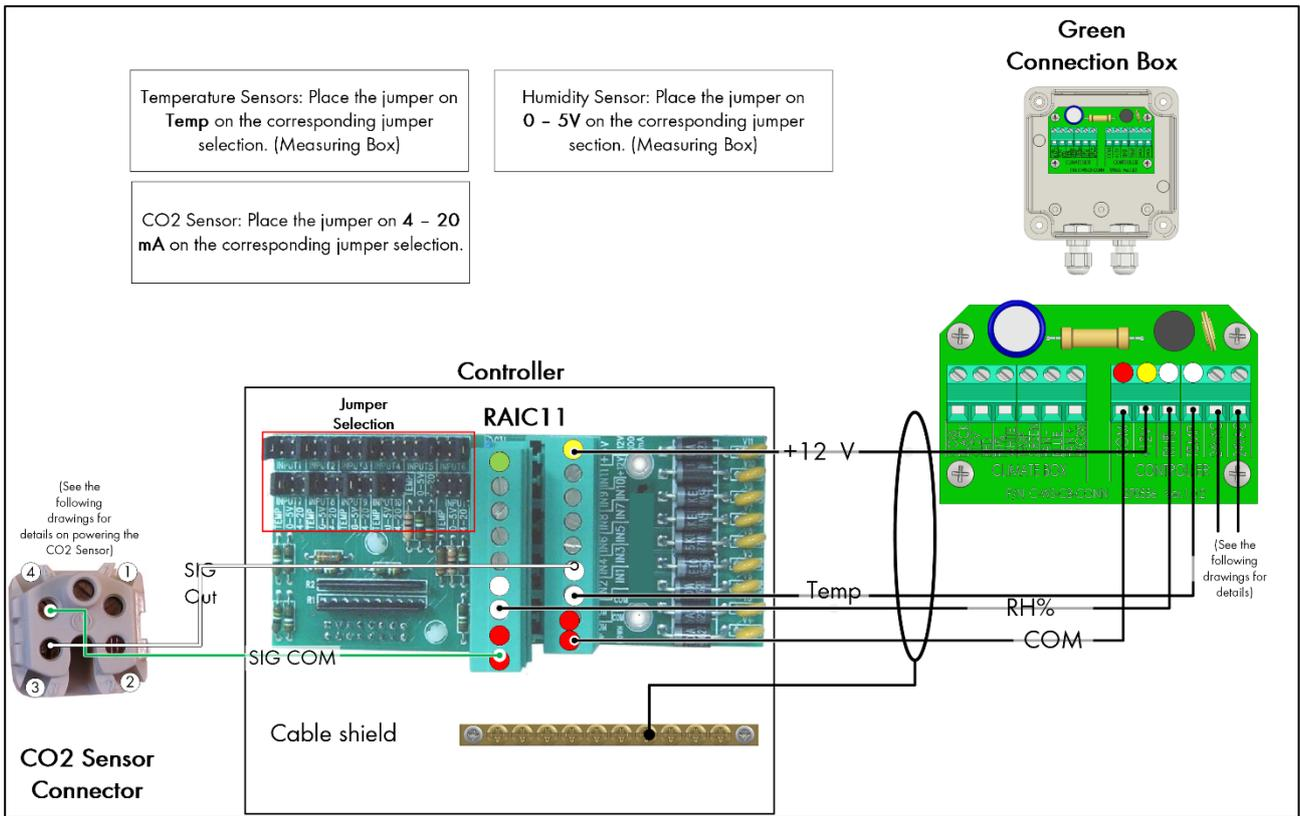

Figure 3: Green Connection Box - Controller RAIC11 wiring (example)
3. The Green Box and Connection Box come with the wiring installed. The user needs to wire the Connection Box to the controller analog input card and power supply (Figure 3).
1. Wire the Connection Box to the controller as shown in Figure 3.